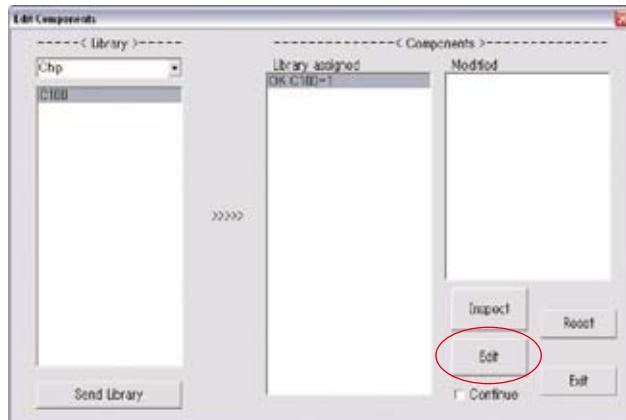

Figure 1-13 Edit Components
Step1: Select **Edit > Edit NG** from the menu-bar and **Edit Components** window shown in Figure 1-13 appears.